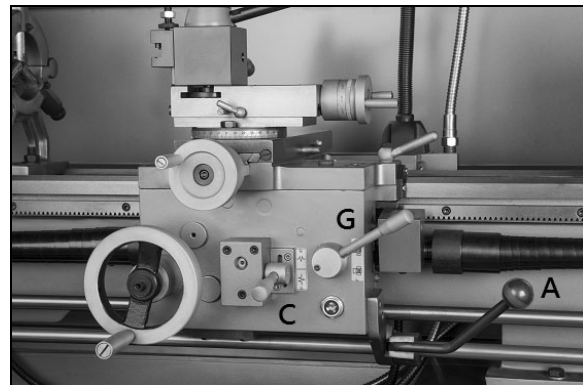

Figure 10-3
1. Move the forward/reverse selector (A, Figure 10-3) up or down depending on desired direction.
Push lever (C, Figure 10-3) down to engage cross feed. Pull lever up to engage longitudinal feed.
- Engage half nut lever (G, Figure 10-3).